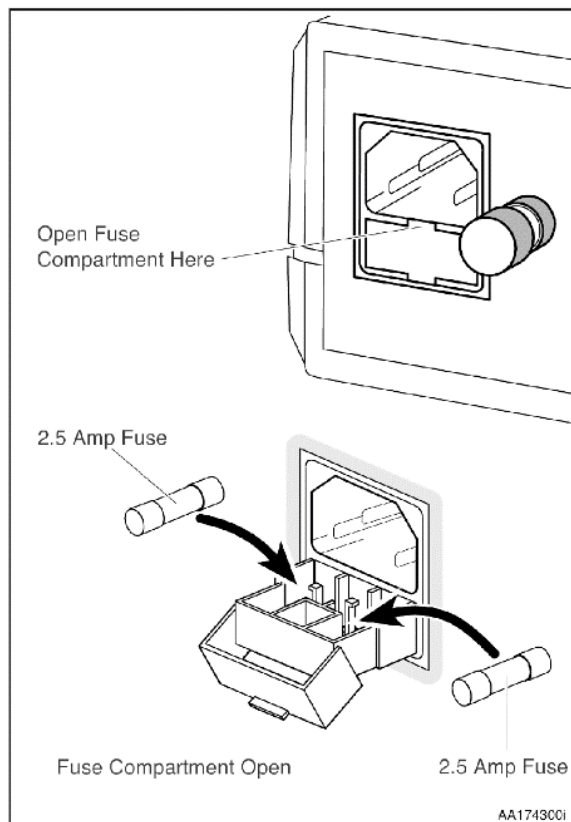

Figure 5: Fuse Replacement
2. Open the fuse compartment, as shown in Figure 5.